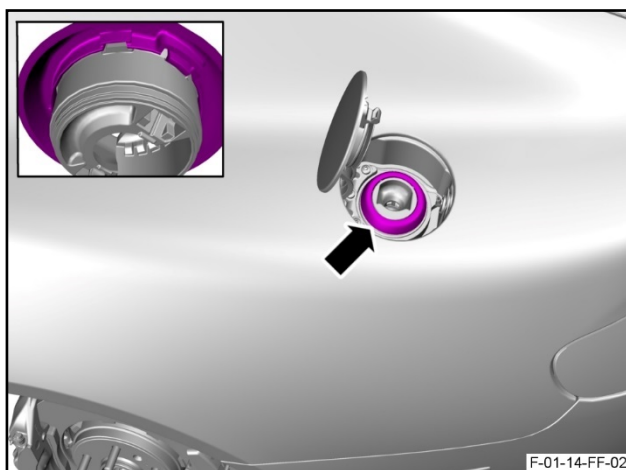

Figure 2
7. Release the fuel filler bezel from the extension for the fuel filler neck (refer to Figure 2)